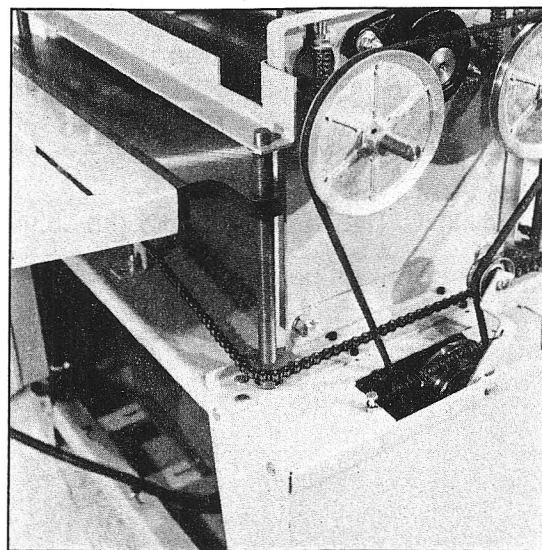

Fig. 17
3. Remove the Feed Roller Pulleys (RB-91) from the end of the feed rollers. Loosen the set screws in the pulley and pull it off. (fig. 17)